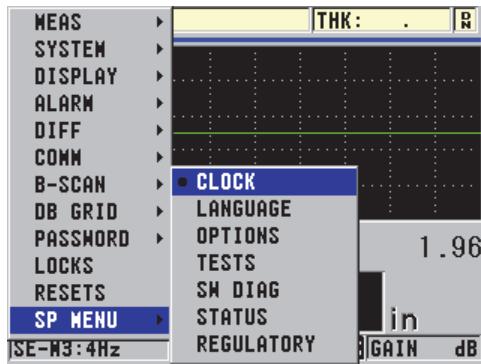

Figure 4-2 The SP MENU screen
2. In the SP MENU (see Figure 4-2 on page 47), select CLOCK.